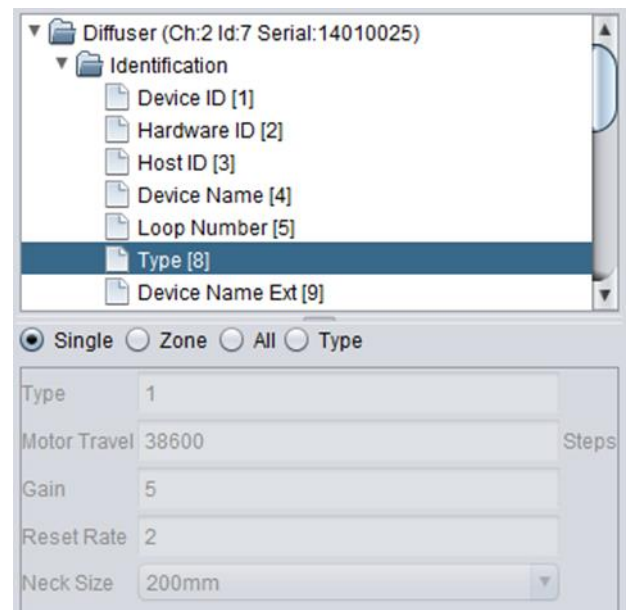

Figure 24: Airflow sense setup checks
- Verify that the diffuser Type and Neck Size is correctly set on the Diffuser controller node (refer Figure 24).